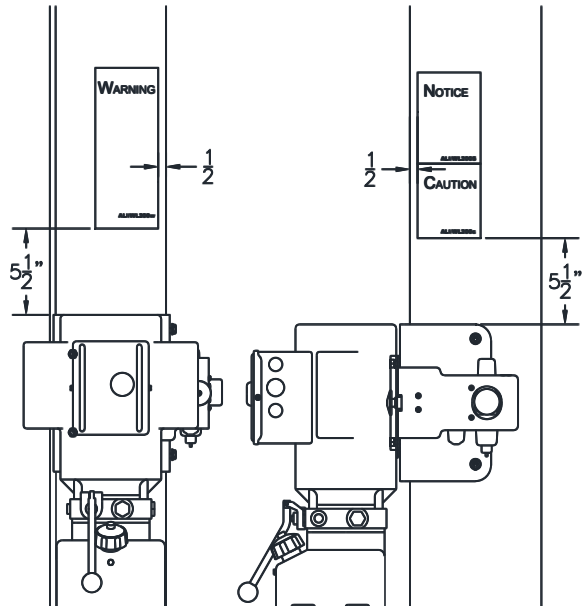

Fig 23 – Warning & Caution Decal
- 66) Place the Warning Decal, Notice Decal, and Caution Decal as shown in **Fig 23**.